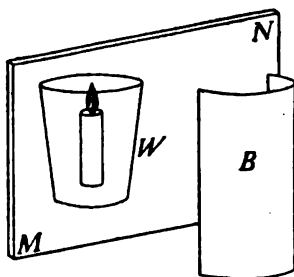
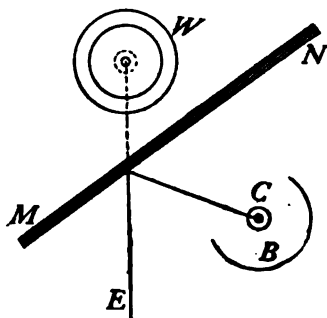

FIG. 357.—Perspective view of "Pepper's ghost."
FIG. 358.—Diagram of the "Pepper Ghost" illusion.
**368. Optical Illusions by a Plane Mirror.**—The *illusion* called *Pepper's Ghost* is typical of many illusions produced by reflection. It may be illustrated by taking a piece of plate glass, *M-N*, a tumbler of water, *W*, and a lighted candle, *C*, placed in a box, *B*, having one side open and arranged as shown in perspective in Fig. 357, and in section in Fig. 358. If the effect is produced in a darkened room, the observer at *E* sees a virtual image of the lighted candle as if it were in the glass of water, the water being seen by transmitted light *through* the plate glass, the